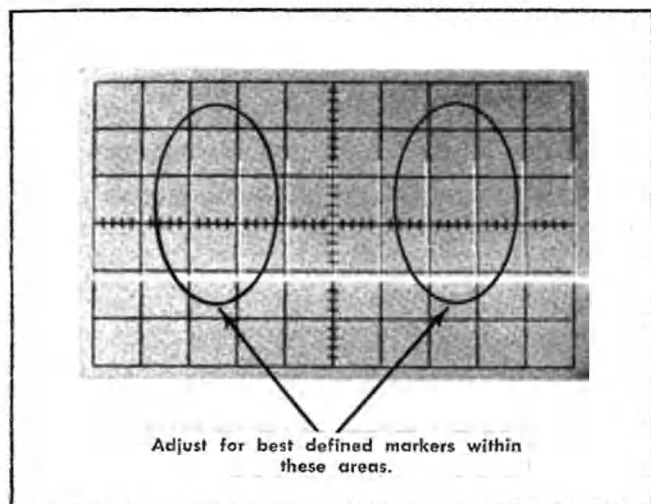

Fig. 5-1. Typical CRT display when checking astigmatism.
- f. CHECK—Markers should be well defined within the areas indicated in Fig. 5-1 with optimum setting of focus control.
- g. If necessary, adjust FOCUS control and ASTIG adjustment (on bottom) for the best definition of the markers within the areas indicated in Fig. 5-1.